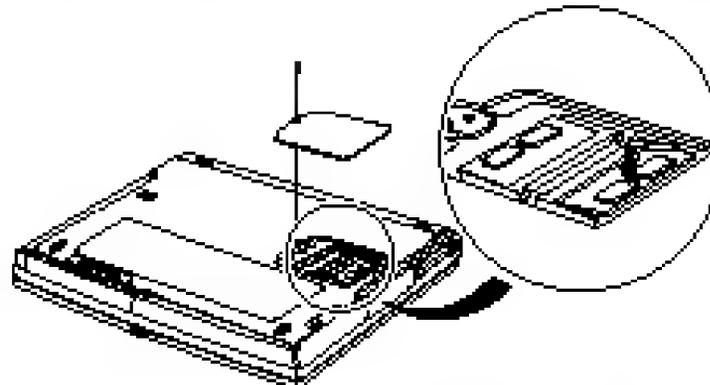

Figure 27. Installing a Memory Module
6. Push the memory module into the slot at a slight angle until the connectors are fully engaged (Figure 27).